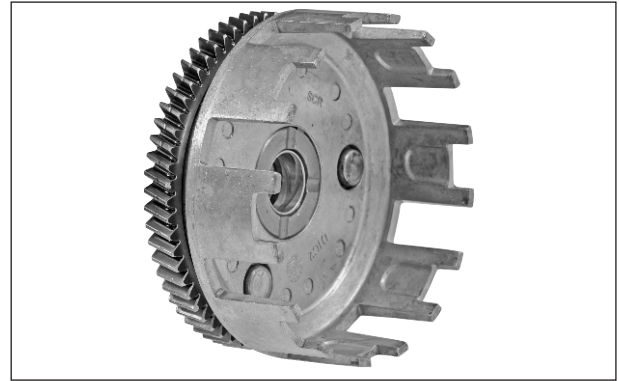

Fig. 3.20
- Inspect housing clutch for the indents / cuts created by the plate clutch drive. (Fig. 3.20)